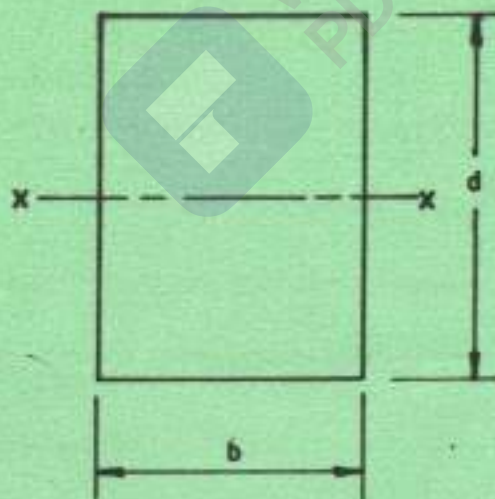

Fig. 3
- (b) **Figure 3** shows a cross section through a rectangular beam. Derive the maximum horizontal shear stress. Take the maximum shear force as Q and hence sketch the horizontal stress distribution diagram. (8 marks)